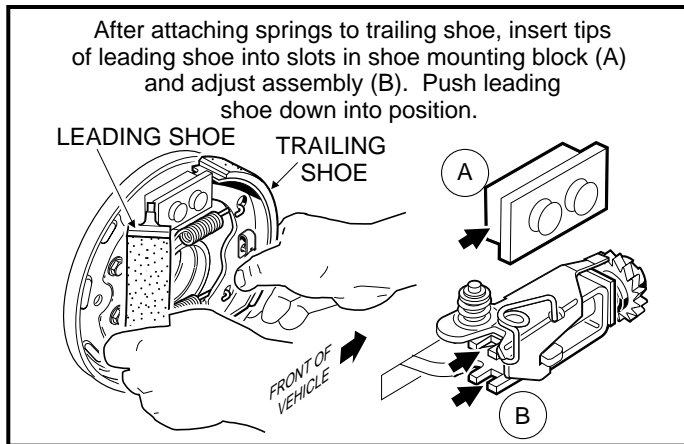

Figure 6-15 Install Leading Shoe
4. While maintaining spring attachment on both shoes, position tips of leading shoe in the mounting slots and then push shoe into place. Hold shoe in position and install retaining clip (**Figure 6-15, Page 6-7**).